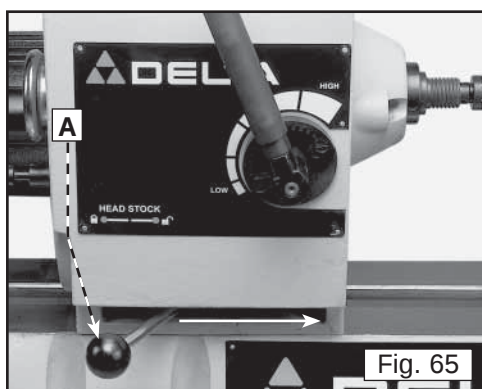

Fig. 65
2. The headstock can turn to any angle. Move the handle (A) Fig. 65 and turn the headstock to the angle best suited for the work. Lock the headstock in place by moving the handle back to the left.